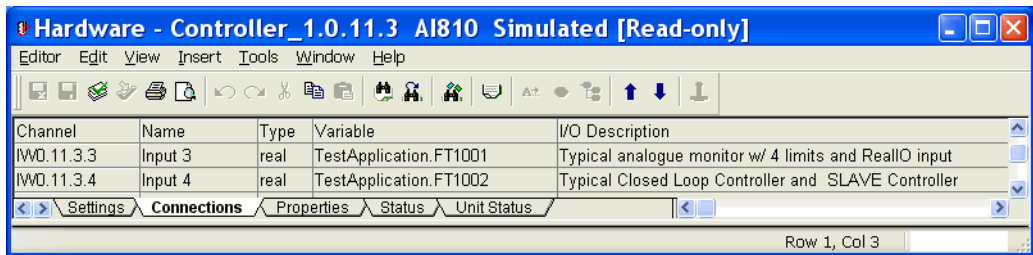

Figure 14. Example Connections Tab
4. These are the connections found on the property tabs accessed through Control Builder. Refer to Figure 14.